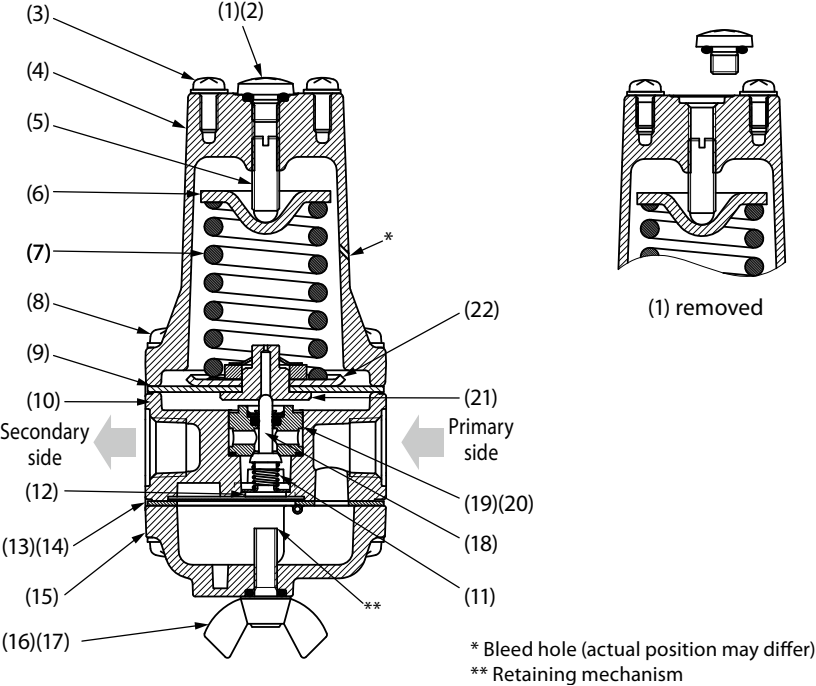
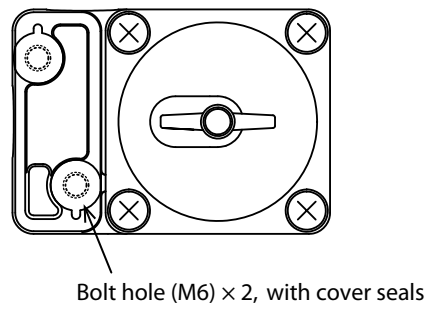

Fig. 1-1. RA1B-1
Fig. 2-6. Bottom view
Mount the pressure regulator on the mounting plate using two or more of the four M4 screws (Fig. 1-1 (3)) in the top of the pressure regulator. The RA1B-2 and RA1B-3 can also be mounted using the two M6 screw holes (see Fig. 2-6) in the pressure regulator body.